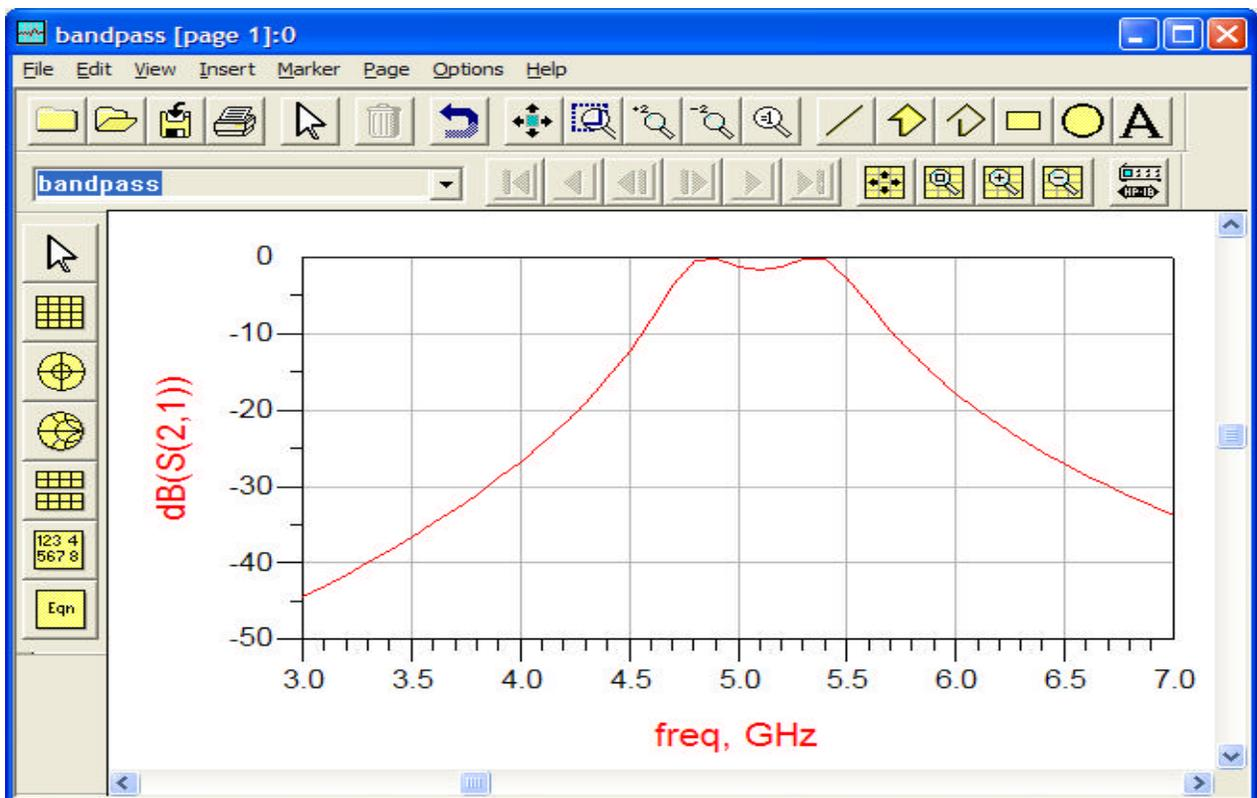
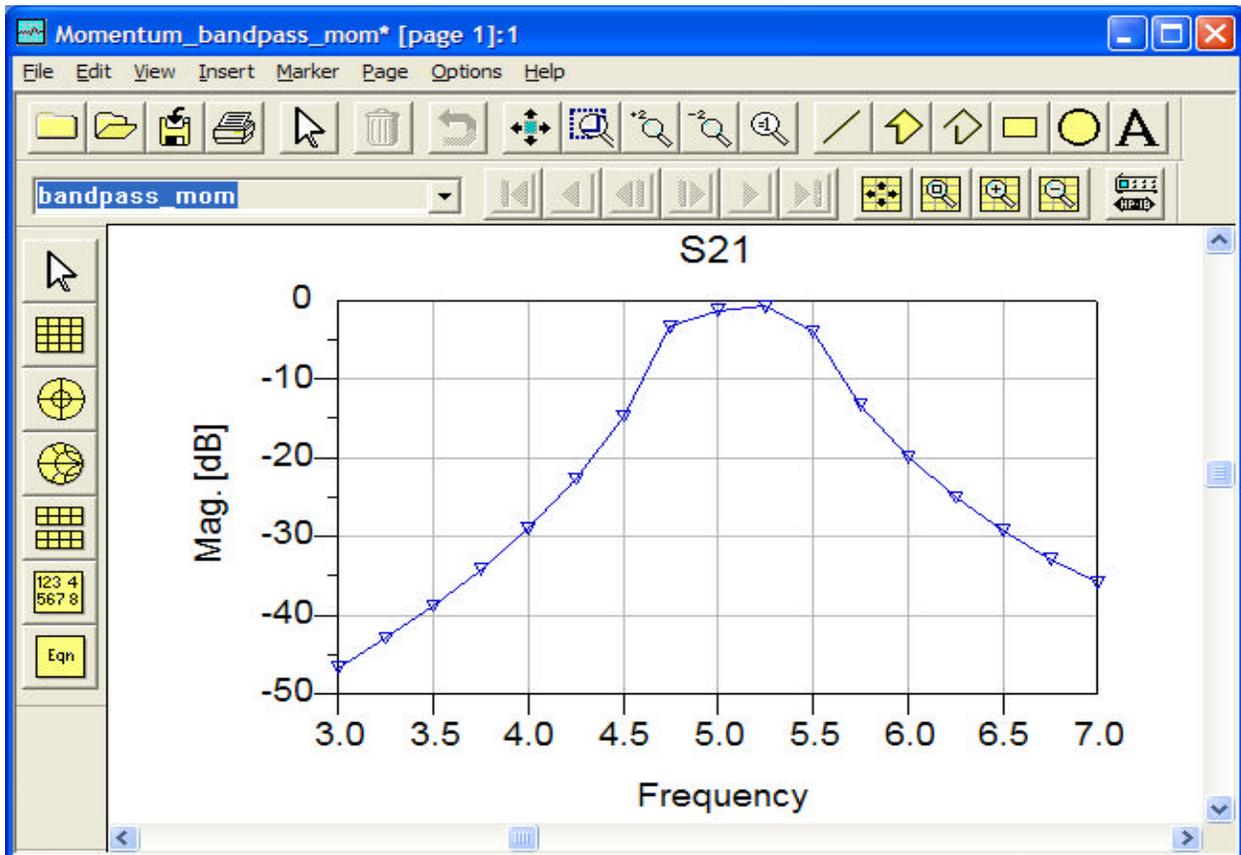

Figure 2 Plot of Bandpass Filter Response
Figure 4 Bandpass Filter Momentum Simulation Results
13. A **Data Display Window** will appear automatically or if not, then initiate one to look at the results. Choose a rectangular display and place it in the window. Select **S(2,1)** and then *Add*. Click *OK*. The result should look like the bandpass response shown in Figure 2.
22. After the simulator is done, a window will pop up automatically with all the s-parameters. In **Figure 4** you will see S21. It is quite close to the network simulation in **Figure 2**, thus validating the design.